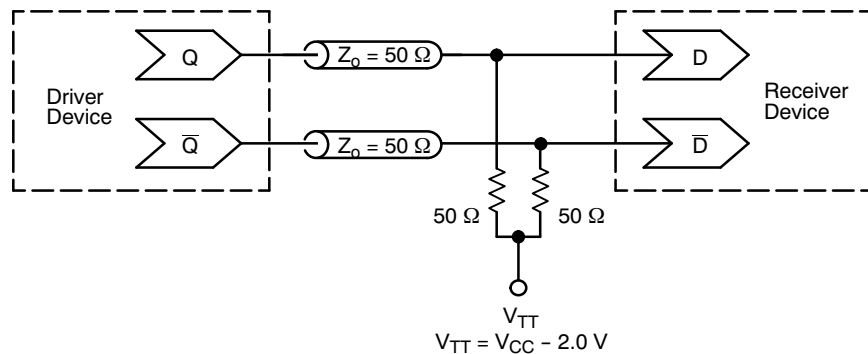

Figure 6. Typical Termination for Output Driver and Device Evaluation
3. LVPECL outputs loaded with external $50\ \Omega$ termination resistors to $V_{TT} = V_{DD} - 2.0\text{ V}$ for proper operation (see Figure 6).
The differential output buffers of the NB4N1158 utilize standard Positive Emitter Coupled Logic (PECL) architecture for OUT+ and OUT-. The outputs are designed to drive differential transmission lines with nominally 50 Ω or 75 Ω characteristic impedance. External DC load/termination with a 50 Ω resistor to $V_{TT} = V_{DD} - 2.0$ V is required. See Figure 6 for output termination scheme.